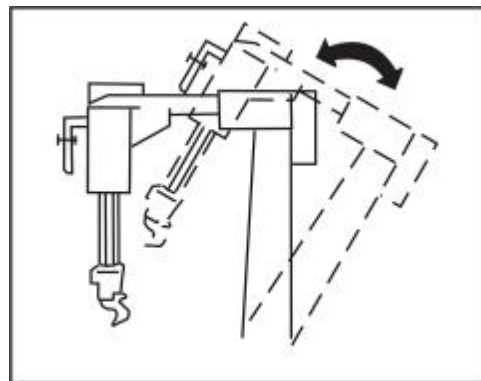

Fig.20
- I The tilting cylinder is controlled by pedal G. When it is pressed, the tilting column tilts backward; and when it is pressed again, the column restore to the upright position (Fig.20)